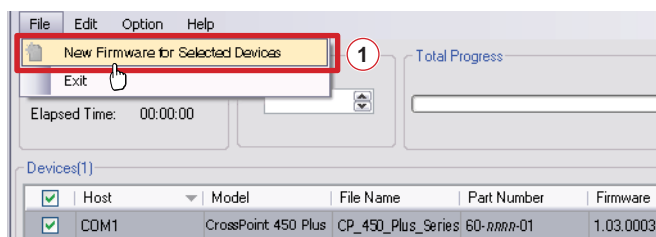

Figure 70. Extron Firmware Loader Window
- **If the switcher is connected via either serial port**, the Extron Firmware Loader window appears (see figure 70 and Serial-port-connected firmware upload on the next page).